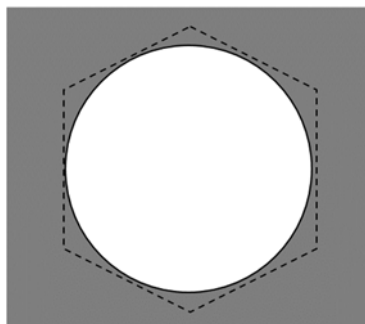

Figure2. Image you should see after the field is opened after adjustment
8. Adjust the condenser aperture so that its NA (the angle of the rays focussed on the sample) approximately matches the NA of your objective lens. (See Fig. 2 in the MM labscript or the Nikon MicroscopyU website.) Thus, for a 100x objective, the condenser diaphragm should be fully open (lever to the left) to collect the largest amount of light; for a 10x objective, the diaphragm should be closed down more.